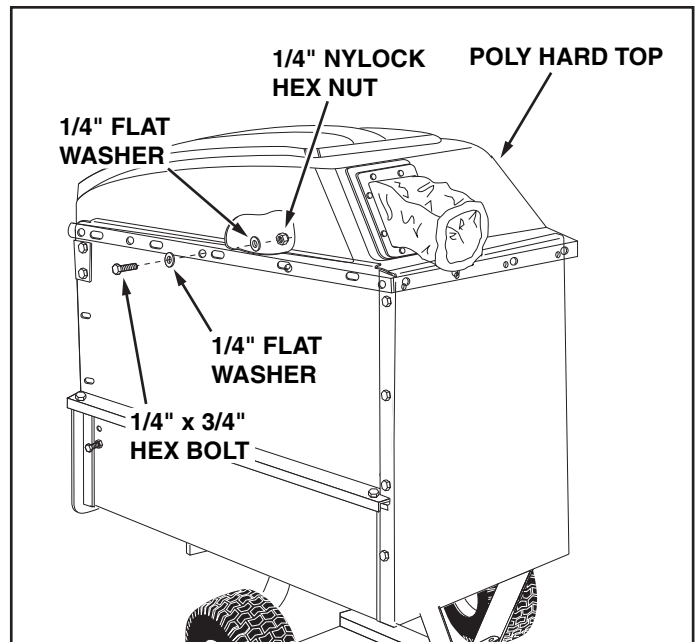

FIGURE 14
24. Install the poly hard top using fourteen 1/4" x 3/4" hex bolts and 1/4" flat washers on the outside and fourteen 1/4" flat washers and 1/4" Nylock hex nuts on the inside. **Tighten**. See figure 14.